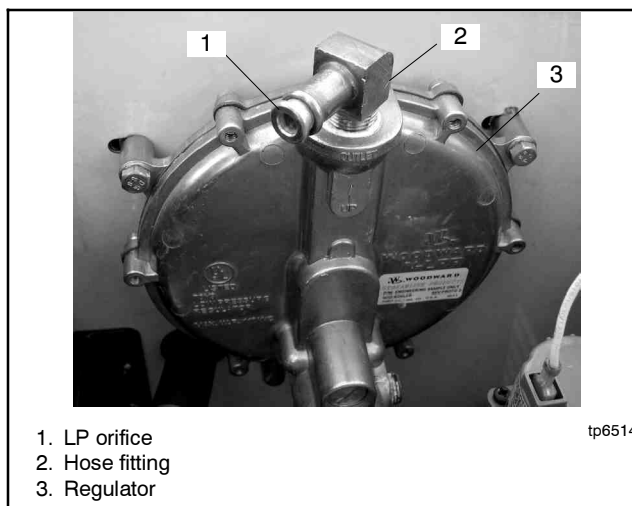

Figure 5-33 LP Fuel Orifice Installation
6. Place orifice into the hose fitting. See Figure 5-33.